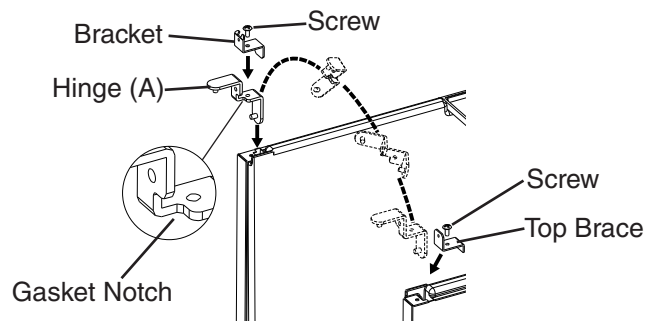

Fig. 3
- 3) Remove hinge (A) and the bracket from the right side of the unit and the top brace from the left side. Rotate hinge (A) to position the gasket notch to the inside, then fasten hinge (A) and the bracket to the left side and the top brace to the right side. See Fig. 3.